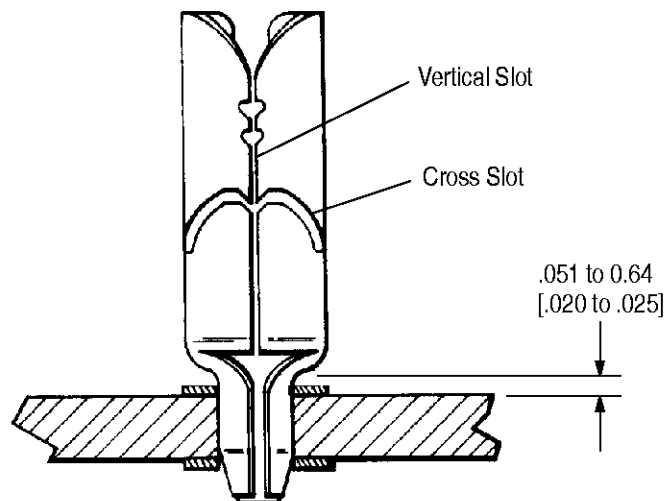

Figure 4
- Changed seating limits in Figure 4
The pc board shall be supported around hole while terminal is being inserted. After insertion, terminal shall be seated on the pc board within the limits specified in Figure 4.